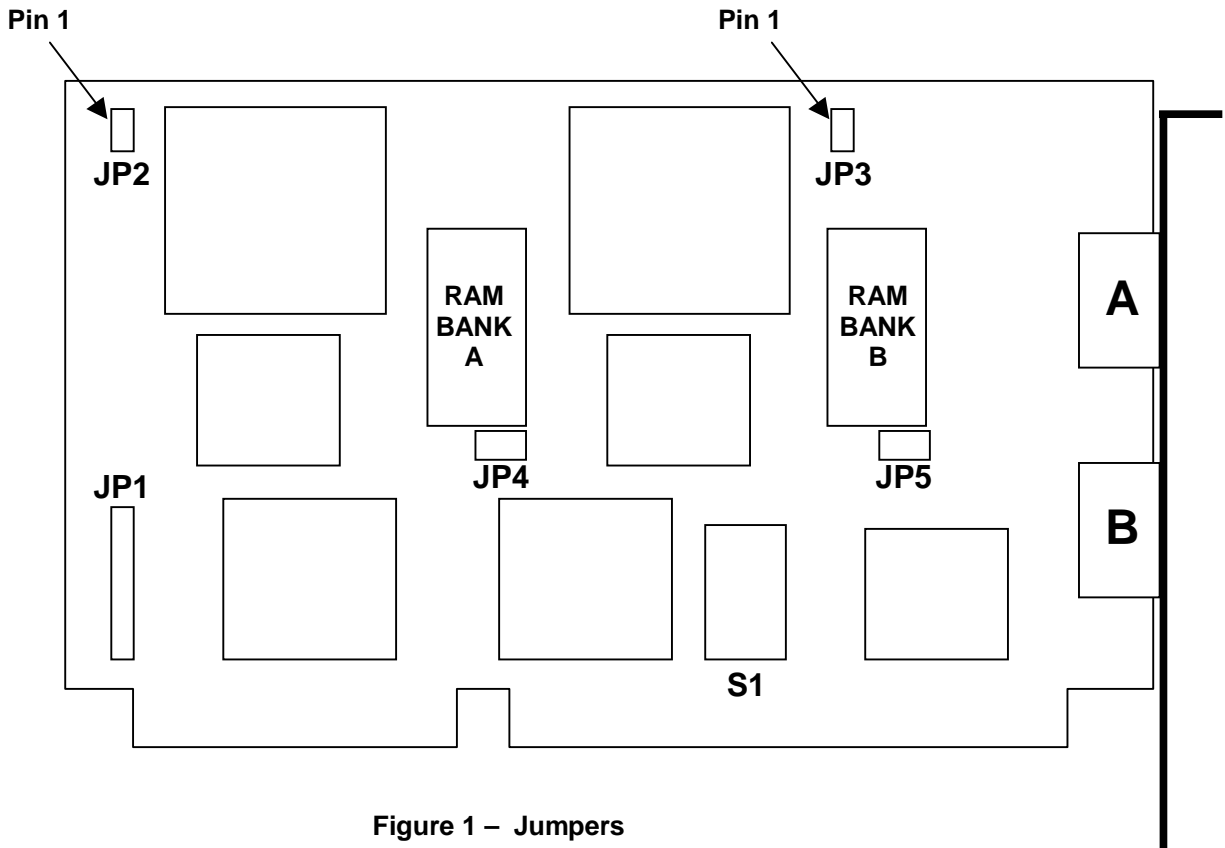

Figure 1 – Jumpers
3.1 Jumpers (Refer to Figure 1.)